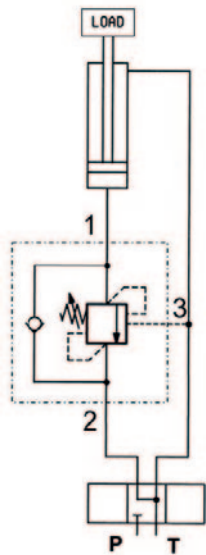

FIGURE 1
With reference to Figure 1, during descent, the pressure acting on the rod side of the cylinder also acts on the pilot line (3) of the valve, aiding its opening.
Load-induced pressure also pushes the cylinder downward. We call the pressure on the port (3) P_P , the load-induced pressure P_C , the setting pressure of the valve P_{TAR} and the pilot ratio R . Neglecting back pressure, for a scheme as in Figure 1, we have that the minimum pressure required to operate the valve descent